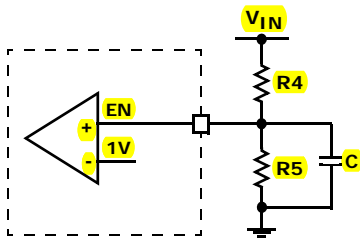

FIGURE 38. EXTERNAL RESISTOR DIVIDER
When the input voltage is below the undervoltage lock-out (UVLO) threshold, the regulator is disabled. To adjust the voltage level of power on and UVLO, use a resistive divider across EN. The input voltage programming resistor  $R_4$  will depend on on the bottom resistor  $R_5$ , as referred to in Figure 38. The value of  $R_5$  is typically between 10k $\Omega$  and 100k $\Omega$ .
The enable (EN) input allows the user to control the turning on or off the regulator for purposes such as power-up sequencing. When the regulator is enabled, there is typically a 600 $\mu$ s delay for waking up the bandgap reference and then the soft-start-up begins. It is recommended that the EN voltage should be kept logic low (less than 400mV), until  $V_{IN}$  reaches 2.5V. Refer to Figures 38 and 39 for suggested circuit implementation with  $V_{IN}$  slew rate.